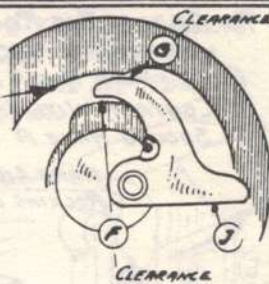

FIG. 2
LOOSEN SCREW (B) TURN ECCENTRIC (E) WHICH WILL ADJUST LATCH (D) AGAINST LEDGE (C) - ADJUST TO RAISE OR LOWER UNTIL THERE IS A CLEARANCE OF DOG (J) AS IN FIG. 2. BETWEEN CAM AND WHEEL AT (F) AND CAM IN PULLEY AT (C). ADJUSTMENT SHOULD BE MADE WHEN R.H. STITCH WHEEL IS LOCKED.